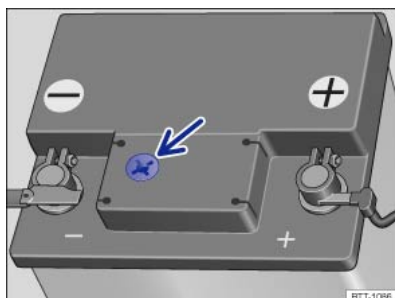

Fig. 233 Battery window on the top of the 12-volt vehicle battery (illustration).
- Ensure that enough light is available for you to clearly see the colours in the round window on the top of the 12-volt vehicle battery $\Rightarrow$ Fig. 233 (arrow). Never use naked flames or glowing matter (e.g. cigarettes) as a light source.